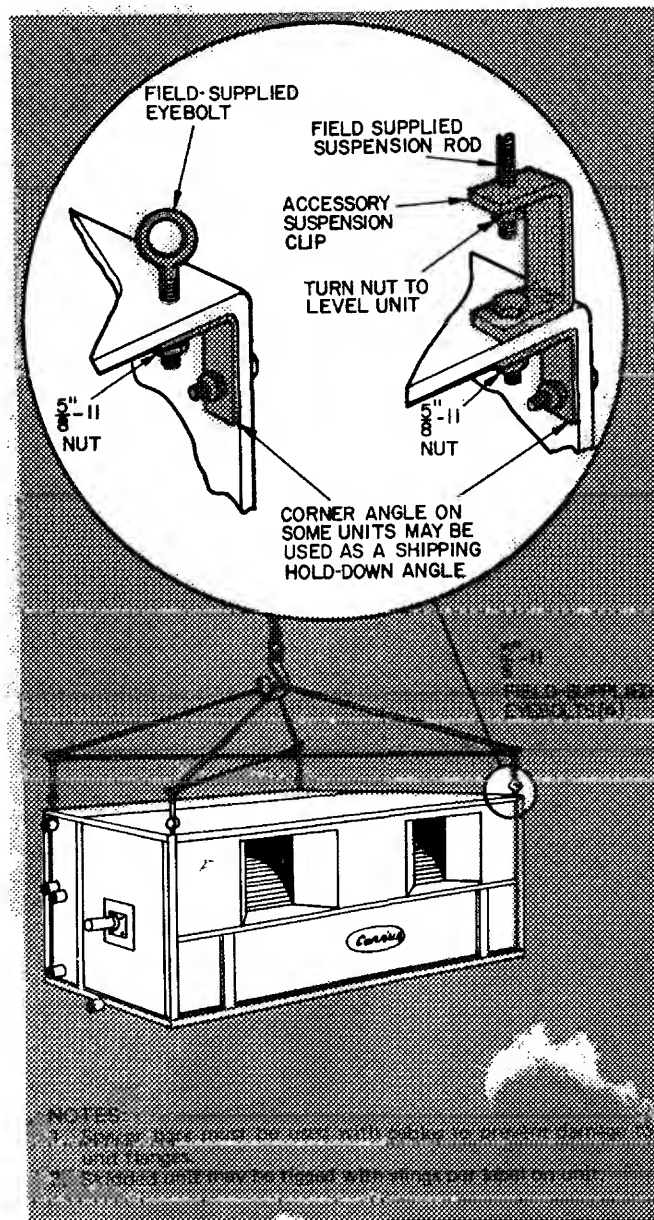

Fig. 1 – Rigging and Suspension Details
1. Use spacer bars when rigging to avoid bending unit flanges per Fig. 1.